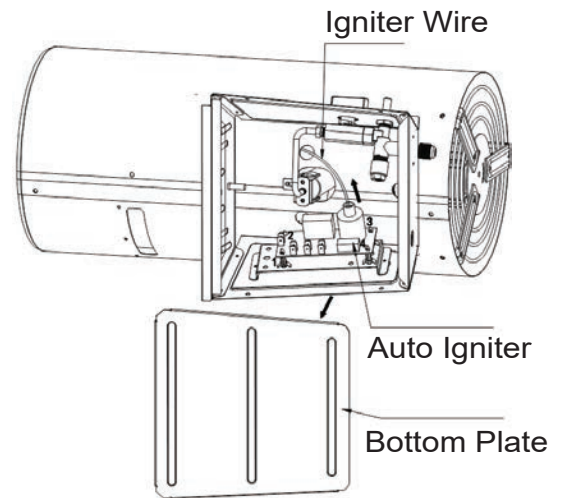

Figure 8 - Removing Igniter Wire from Igniter
2. Remove the black igniter wire from Piezo igniter. Access the igniter wire through the underside of the heater base (see Figure 8). Push the wire up through the notch in the filler panel.
3. Use a nut-driver or standard screwdriver to remove the igniter mounting screw from the rear head (see Figure 8).